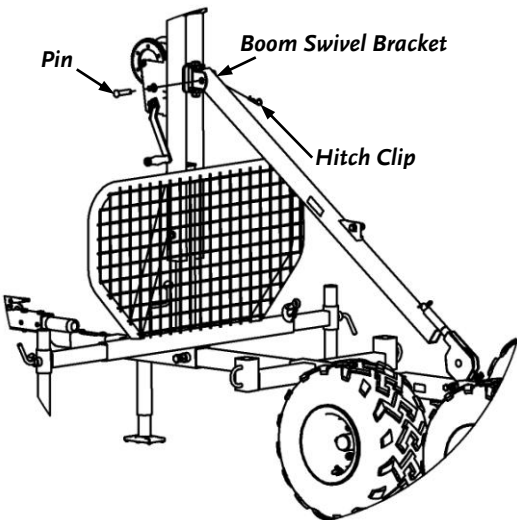

Figure 35
6. Install the Boom to the Boom Swivel Bracket with the Chain Attachment Bracket on the Boom pointing up (Chains not shown for clarity), using the Hitch Clip Pin and Pin that was removed in step 5 (**Figure 35**).